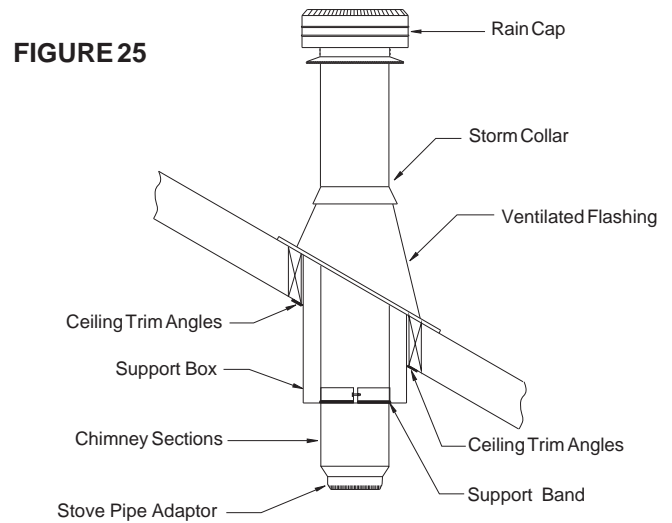

FIGURE 25
4. Lower the chimney length down through the opening in the bottom of the support so that the Support Band makes contact with the bottom of the Support Box. (See Figure 25).